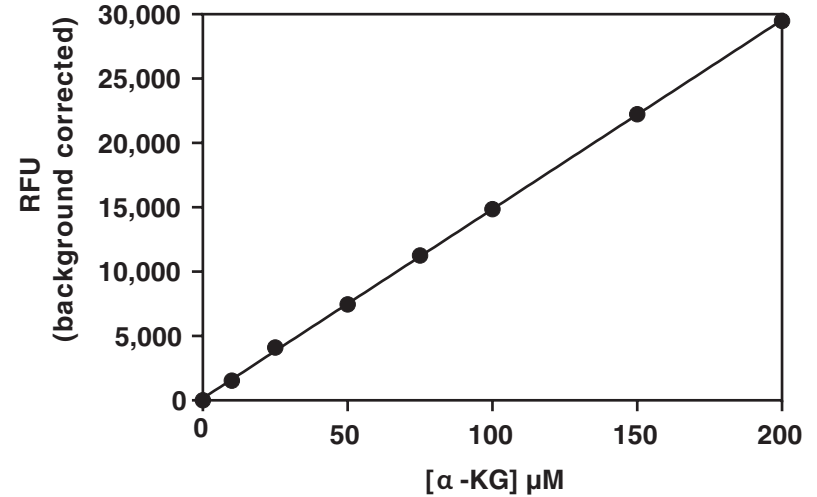

Figure 3. α -KG standard curve - fluorometric
2. Subtract the fluorescence or absorbance value of the standard A (no α -KG) from itself and all other Standards, Samples, and Sample Background. This is the corrected signal (CS).
4. Plot the CS values (from step 2 above) of each standard as a function of the final concentration of α -KG from Tables 1 and 2 on pages 14 and 15, respectively. See Figures 3 and 4, on pages 19 and 20, respectively, for typical standard curves.